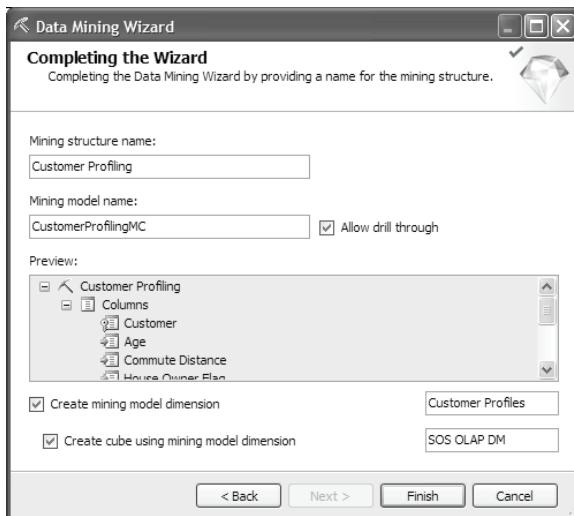

Figure 8.5 Data mining results can be applied back to UDM in the form of a data mining dimension.
- In the Completing the Wizard step (Figure 8.5), name the structure **Customer Profiling** and the model **CustomerProfilingMC**. Enable drillthrough.